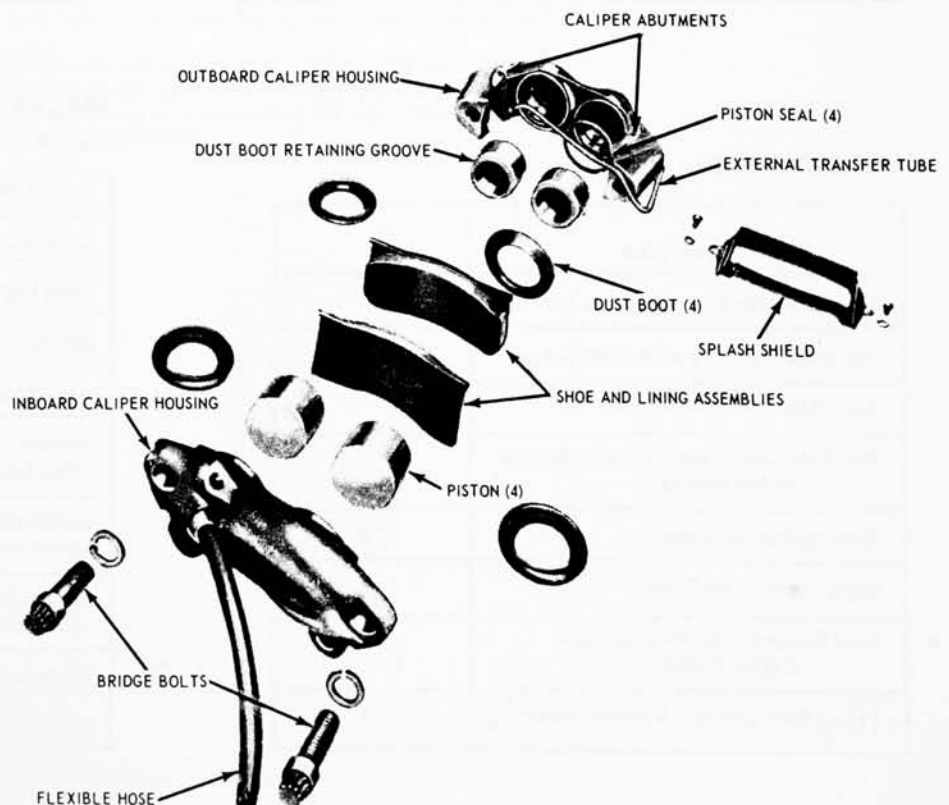

FIG. 21—Caliper Assembly — Exploded View
Do not remove the bridge bolts that hold the two halves of the caliper together. The two caliper housings are shown separated in Fig. 21 for illustration purposes only.
2. Remove the two attaching bolts and the caliper splash shield (Fig. 21). (Fig. 21).
If a piston is so completely seized in the cylinder bore that it can not be removed with the special tool, force the cylinder out of the bore by positioning two screwdrivers in the piston dust boot retaining groove and prying outward. To prevent cocking, tap the end of the piston lightly around the circumference with a hammer, while the prying force is being applied. Be careful to avoid damaging the dust boot retainer in the caliper housing (Fig. 21). If this method of removal is used, the pistons must be replaced.
Clean all metal parts with alcohol or a suitable solvent (Fig. 21). Use clean, dry, compressed air to clean out and dry the grooves and passage ways. Be sure that the caliper bore and component parts are completely free of any foreign material.
5. Carefully install four new dust boots on the caliper housings and pistons. Be sure that each boot is fully seated in the groove of its respective caliper housing and piston (Fig. 21). **Do not use the original dust boots.**